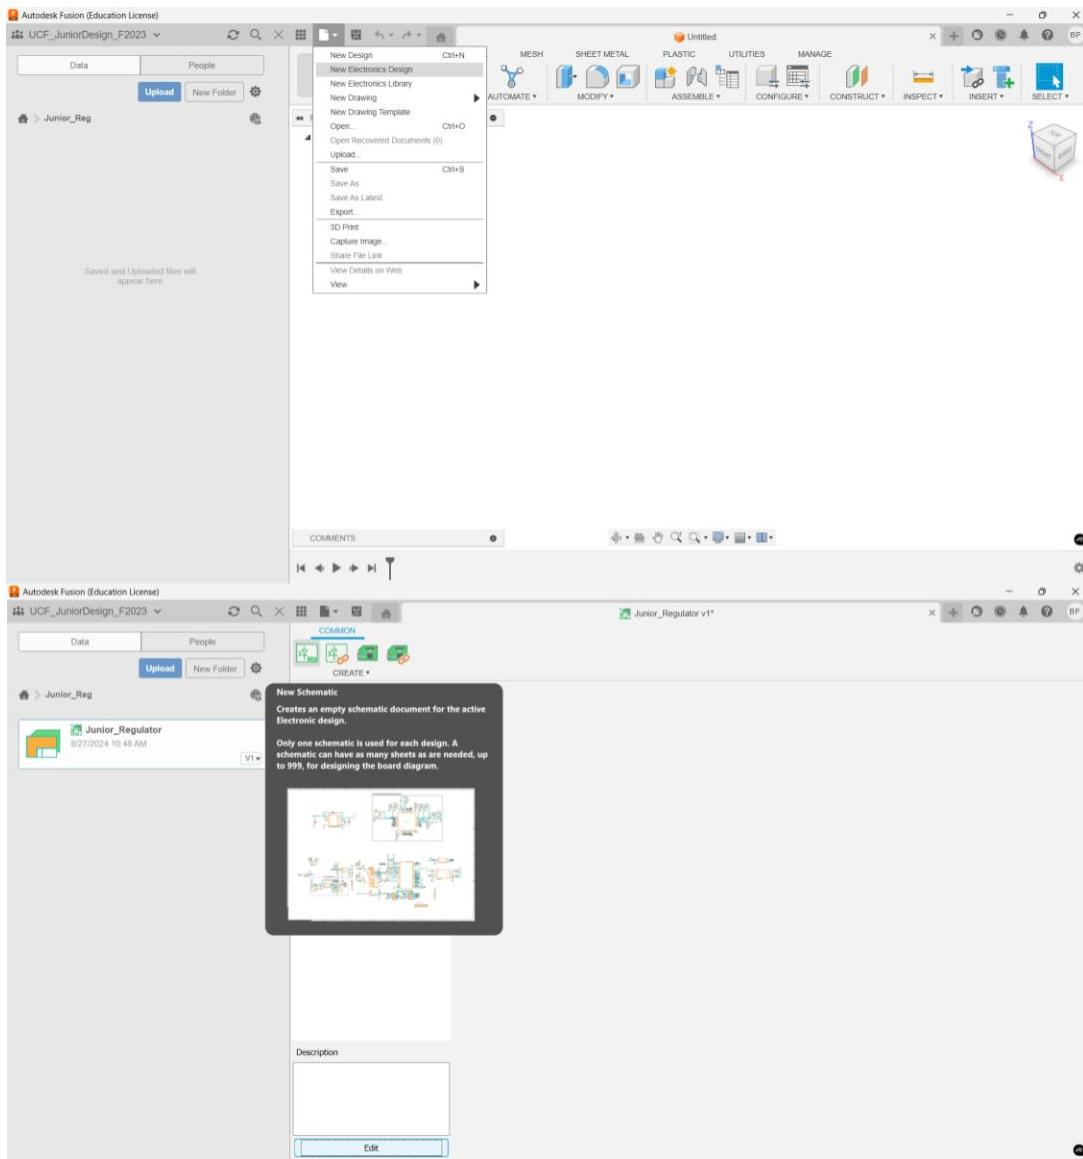

Figure 3: Fusion's new schematic.
3.3: Open a new electronic design then new schematic as shown in Figure 3. Save this schematic with a new name not untitled.sch.